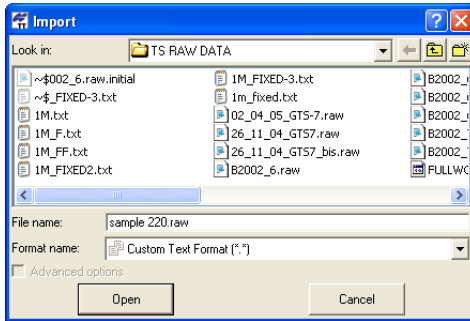

Figure 3-27. Import Custom TSVRaw Format File
4. Set the desired *Advanced options* (Figure 3-27 on page 3-32): define the projection type, coordinate order, and type of vertical angle if known.